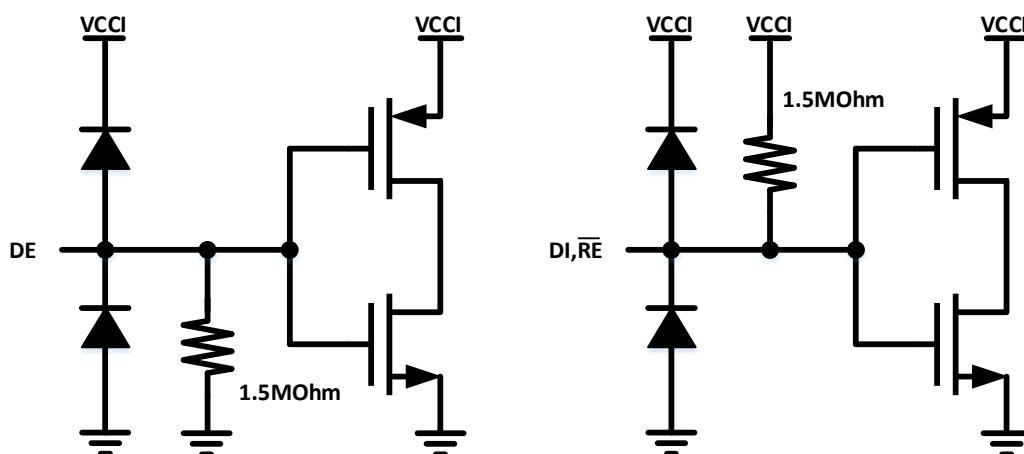

Figure 9-1. Input equivalent circuit
The CA-IS2092X devices include three logic inputs on the logic side: receiver enable, driver enable and driver digital input. The driver enable control DE pin has an internal weak pull-down to GNDA, while the digital input DI and receiver enable pins have an internal pull-up to  $V_{CC}/V_{CCL}$ , see Figure 9-1 the input equivalent circuit.
The transmitter converts a single-ended input signal (DI) from the local controller to differential outputs on the bus lines A and B. The truth table for the transmitter is provided in Table 9-2, the driver enable control DE pin has an internal weak pull-down to GNDA, see Figure 9-1 the input equivalent circuit; while the digital input DI pin has an internal pull-up to  $V_{CC}$  for CA-IS2092W or  $V_{CCL}$  for CA-IS2092VW. The driver outputs and receiver inputs on the bus side are protected from  $\pm 20kV$  electrostatic discharge (ESD) to GNDB, as specified by the Human Body Model (HBM). The driver outputs also feature short-circuit protection and thermal shutdown.